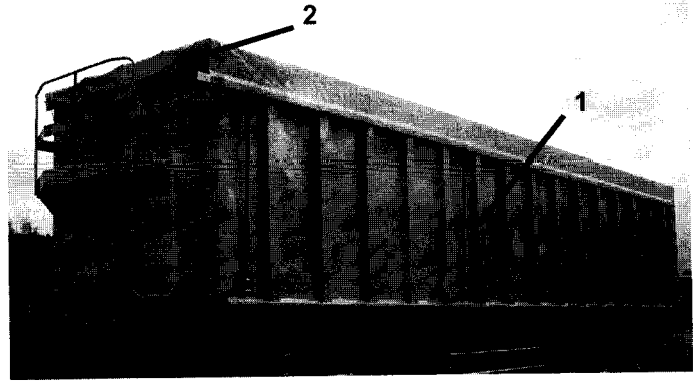

Fig. 32-1
Loosen the unsheeting batten (depending on version: tautened by straps or bungees), fig. 32-1, ref. 1.
Remove the attachments on the front and the door (fig. 32-1 ref. 2 and 32-2).